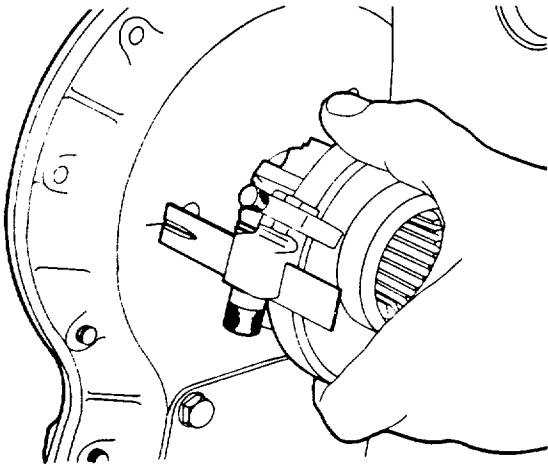

Fig. K.9.
9. Take up backlash by turning tool against normal direction of rotation (shown on pump nameplate) and mark the scribed line on the rear of the timing case to coincide with the centre of the slot in the pointer (see Fig. K.9).